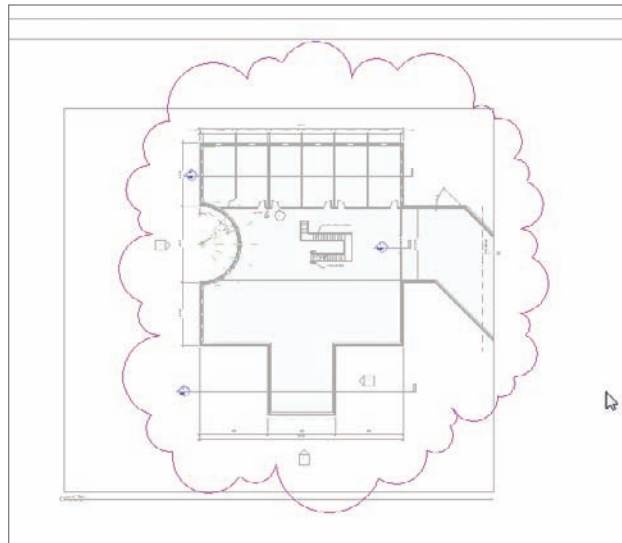

FIGURE 14.18 Placing a revision cloud
3. Place a revision cloud around the plan, as shown in Figure 14.18.